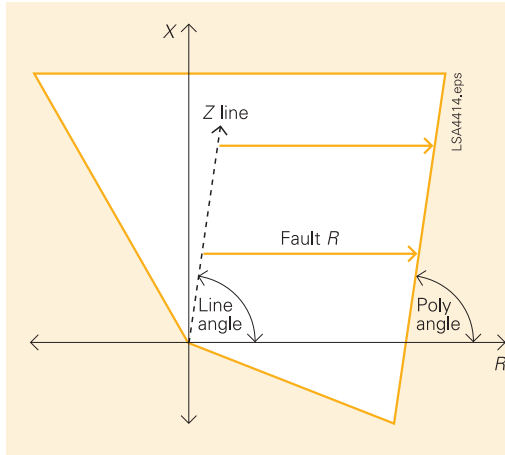

Fig. 12 Polygon and line angle
- 1211 Angle of inclination, distance charact.: This is usually set the same as the line angle. In this manner the resistance coverage for all faults along the line is the same (Fig. 12). Therefore set for this application the angle of inclination of the distance characteristic equal to the line angle which is 83°.